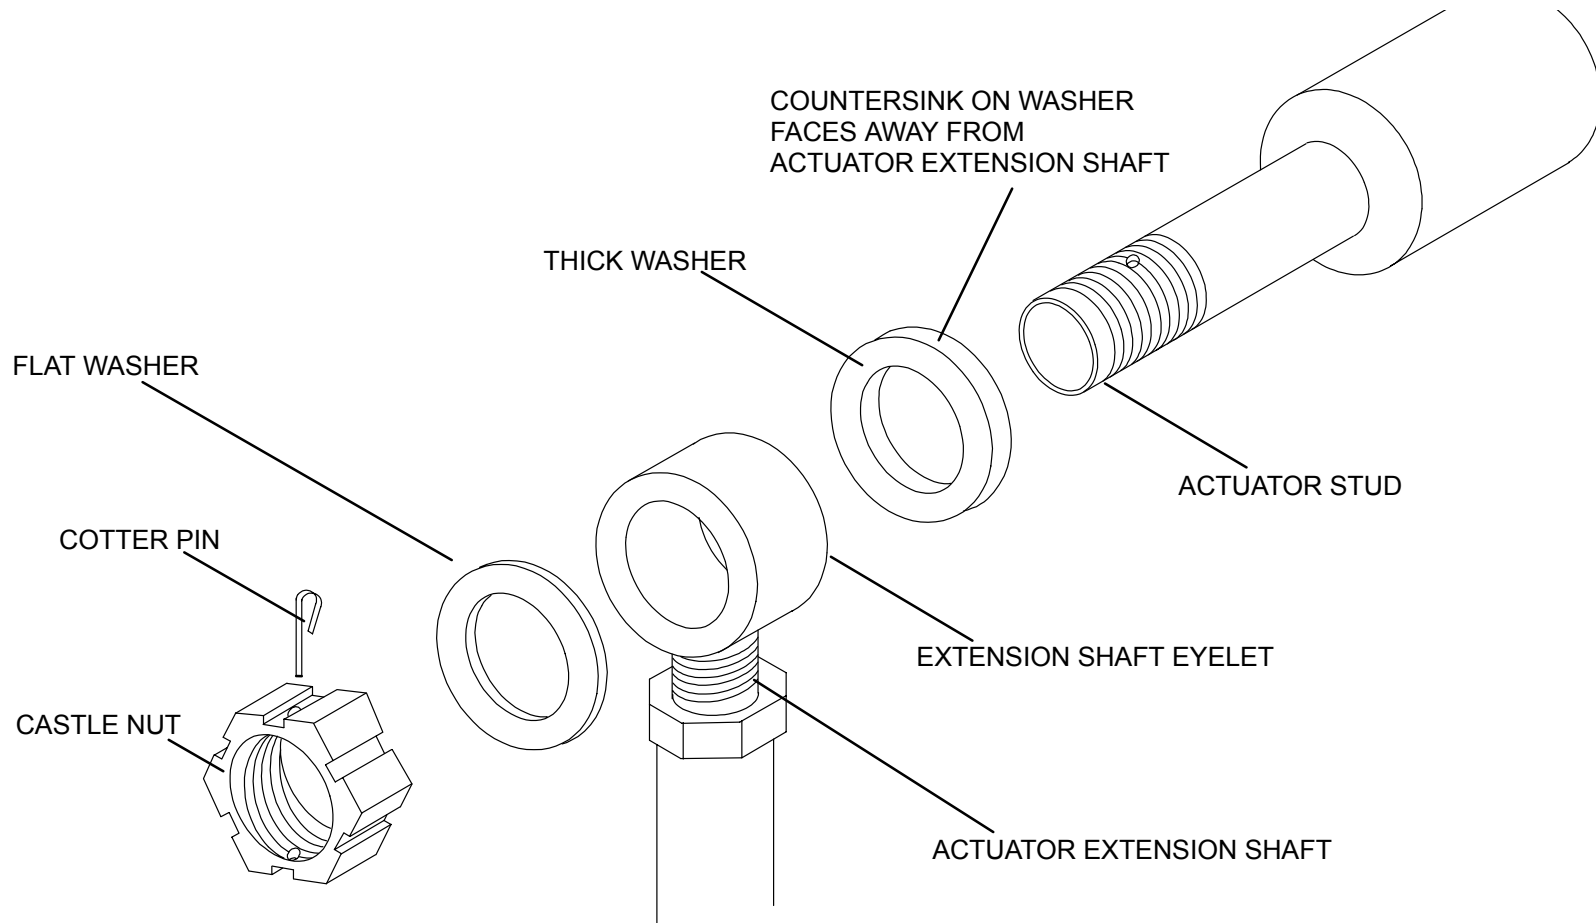

FIGURE 297 Extension Shaft Removal
7. Remove the Cotter Pin at the top of the Motor Drive Screw and remove the Castle Nut and Flat Washer. See Figure 297.
19. Install the Extension Shaft onto the Gantry Pin. Refer to Figure 297.